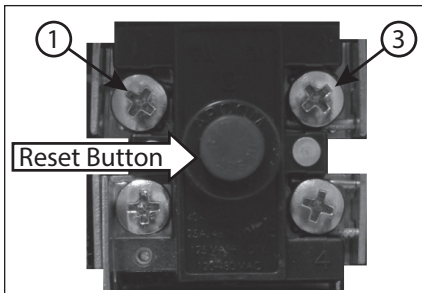

Figure 35 - Energy Cut Off (ECO) Button.
- Press the red ECO reset button (Figure 35).